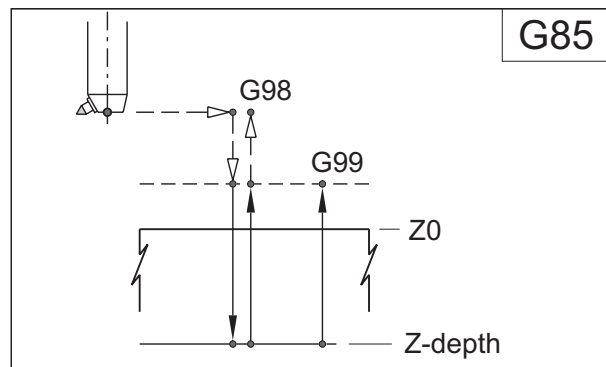

Figure 25-14
**WHEN TO USE G85 CYCLE - Figure 25-14 :**